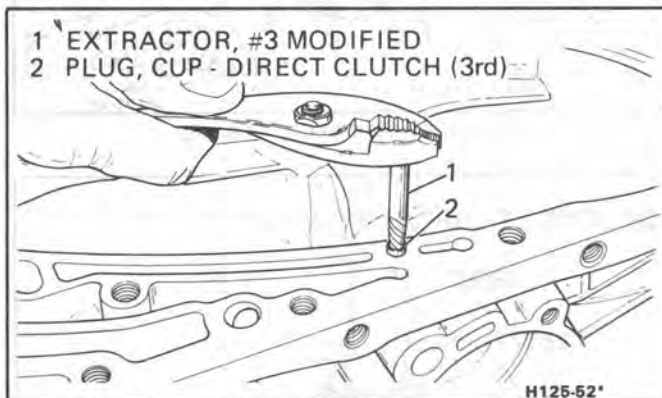

Figure 48 Cup Plug Removal
- Pipe (138) with J-28585, pry out.
1. Coat both ends of the pipe (138) with Loctite 719 ® or equivalent.
2. Pipe (138) into case (112), tap gently with a soft mallet.
3. Retainer (143) and bolt (142) torque to 24 N·m (18 ft. lbs.)
- 3rd oil cup plug (127) for cracks or loose fit
**Remove or Disconnect (Figure 48)**
- Cup Plug (2) - use #3 screw extractor with 13 mm (1/2") ground off.
- Cup Plug (2) tap until seated in case - use a 6 mm (1/4") rod.